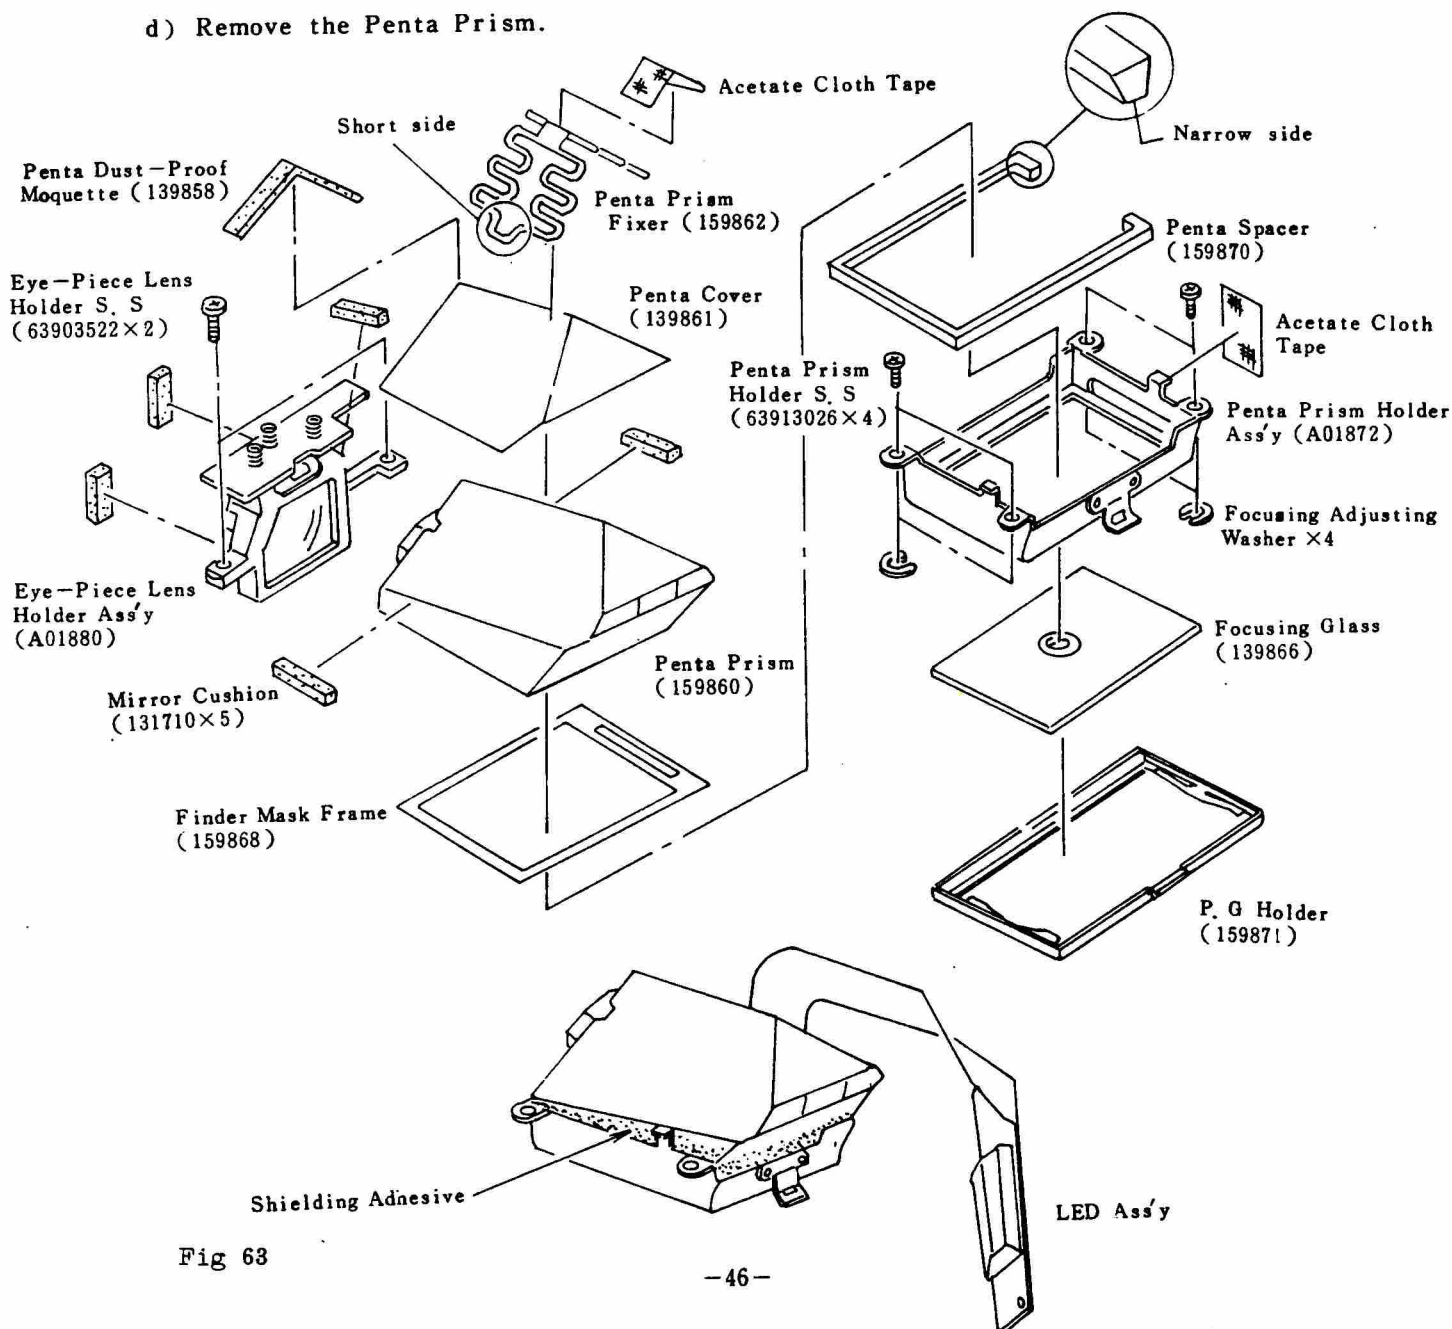

Fig 63
c) Remove the shielding adhesive from around the Penta Prism as shown in (Fig 63).
When the finder focus error is out of  $\pm 1/4$  " range (Fig 68) adjust the finder focus by changing the Focusing Adjusting Washers (Fig 63).